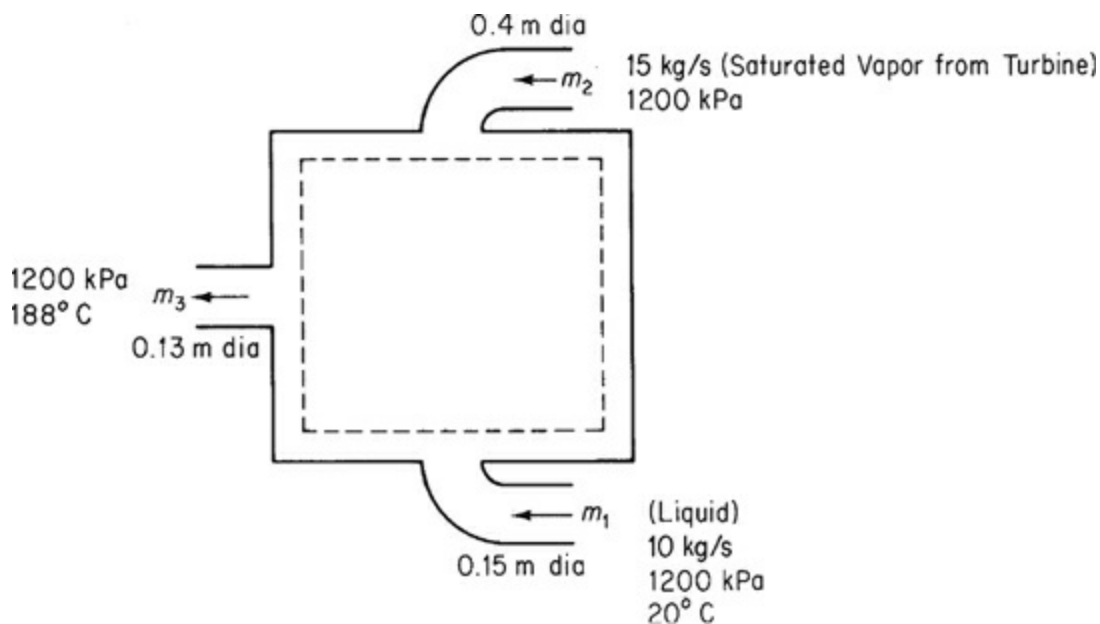

Figure P8.4.27
****8.4.27** Feed-water heaters are used to increase the efficiency of steam power plants. A particular heater is used to preheat 10 kg/s of boiler feed water from 20°C to 188°C at a pressure of 1200 kPa by mixing it with saturated steam bled from a turbine at 1200 kPa and 188°C, as shown in Figure P8.4.27. Although insulated, the heater loses heat at the rate of 50 J/g of exiting mixture. What fraction of the exit stream is steam?